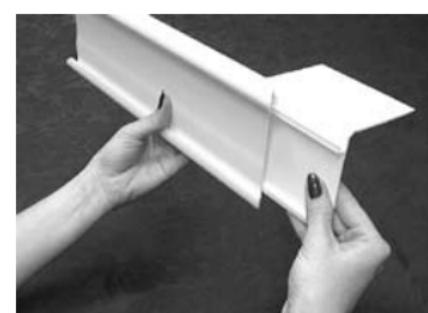

Figure C1
2. Unwrap the Sheer Magic™ valance and holding it in one hand, slide the large valance clip connectors into the grooves located on the back of the valance. Make sure that the angled dust covers are located at the top of the valance. Position the valance clip connectors in the same position on the valance as the valance clips on your vertical blind headrail. This will ensure that the valance attaches easily to your Sheer Magic™ vertical blind headrail. (See Figure C1)